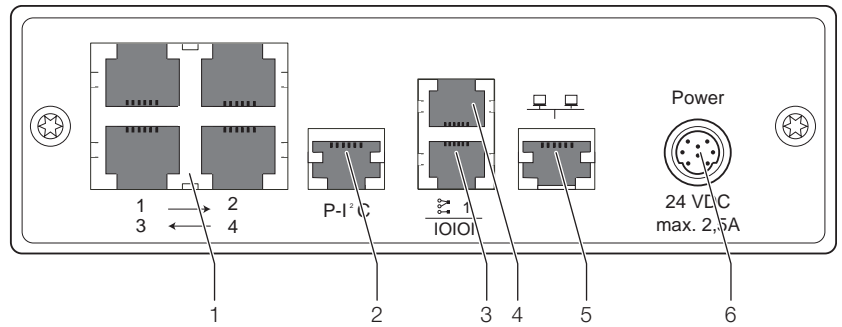

Fig. 50: Control unit Liquid Cooling Package Inline (Basic CMC) – rear
To connect the Liquid Cooling Package Inline to a network, connect one of the network ports on the Liquid Cooling Package Inline control unit (Fig. 50, item 5) to a network access port using a category 5 patch cable.